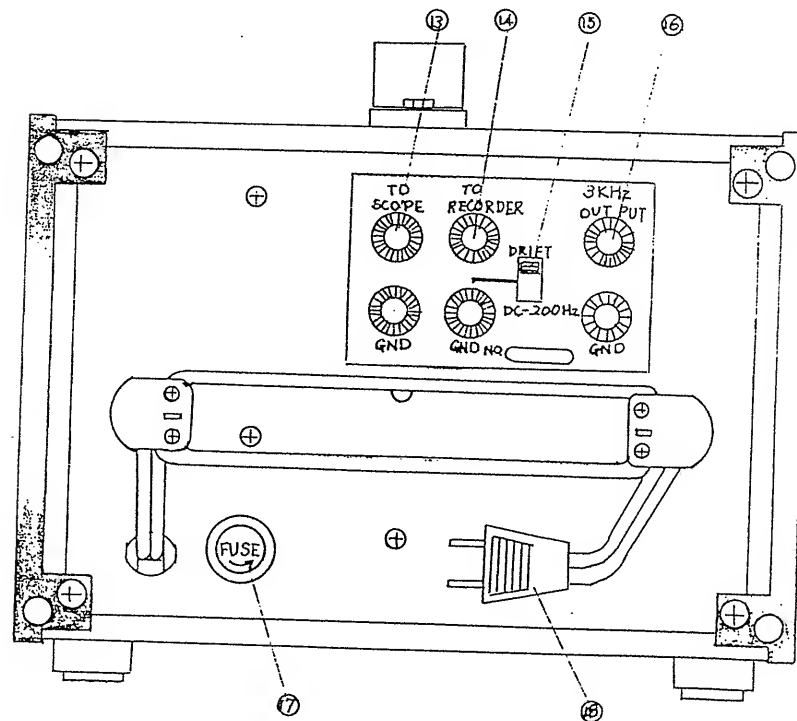

Fig. 3-2 Rear panel layout
3.2 EXPLANATION OF REAR PANEL (See Fig. 3-2.)
- (13) TO SCOPE: This terminal provides a wow and flutter signal which can be displayed on an oscilloscope for waveform observation and period measurement. The GND terminal is connected to the chassis. The output impedance is approximately 50 k Ω .
- (14) TO RECORDER: This terminal is for recording of drift (tape speed), or wow and flutter, using a recorder. The GND terminal is connected to the chassis. The output impedance is approximately 50 kΩ.
- (15) DRIFT